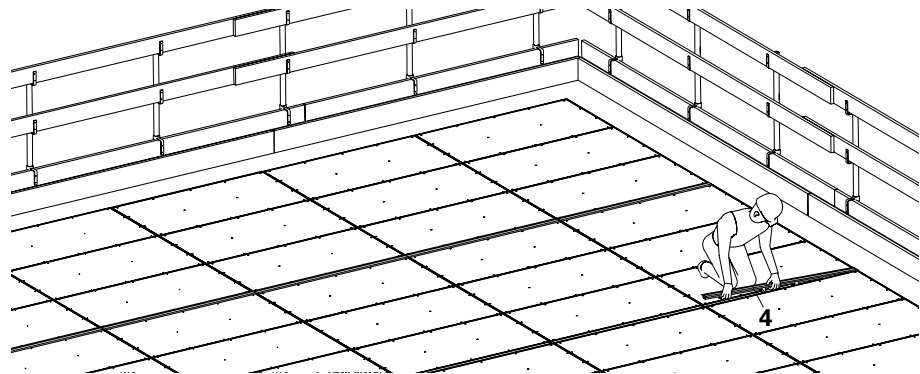

Fig. A4.19
3. Continually insert Cover Strip SAL (4). (Fig. A4.19)